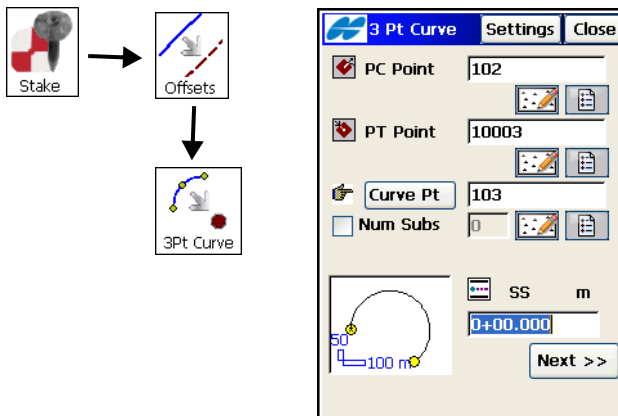

Figure 9-26. Three Point Curve
2. On the **3 Pt Curve** screen (Figure 9-26), enter or select from the list or map the following sets of three known points, to create a curve and tap **Next**: